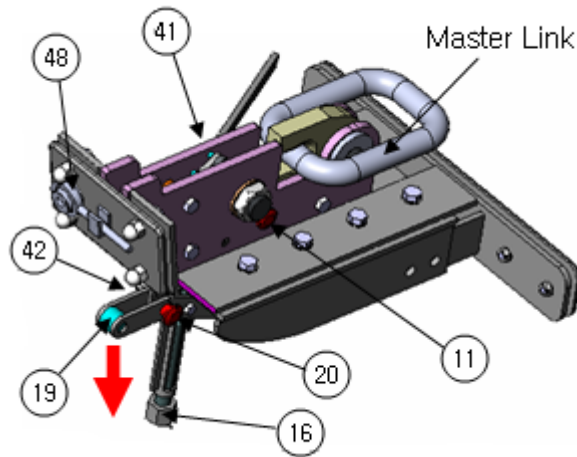

Fig. 5.3.1 Release principle of the hook unit
Firstly, pull out the snap-pin (item 41), safety-pin (item 11), snap-pin (item 42) and safety-pin (item 20) in the order named. (see figure 5.3.1) and then push the handle (item 19) down by using hands or feet.